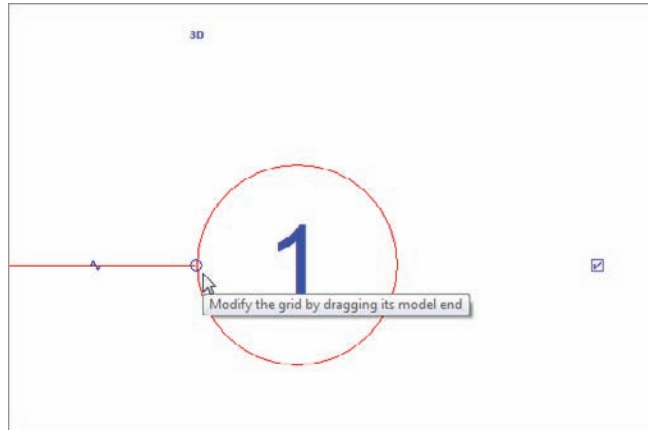

FIGURE 8.3 Examining the column grid grips
- The grid bubble needs to be moved. Press Esc twice or click Modify (to clear the command), and select the grid bubble. Notice the round blue grip, similar to Figure 8.3.